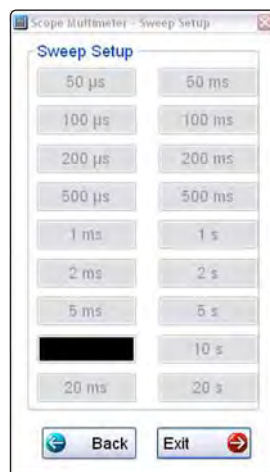

Figure 9-12 Sample Sweep Setup dialog box
2. Tap **Sweep** to open the sweep dialog box (Figure 9-12)